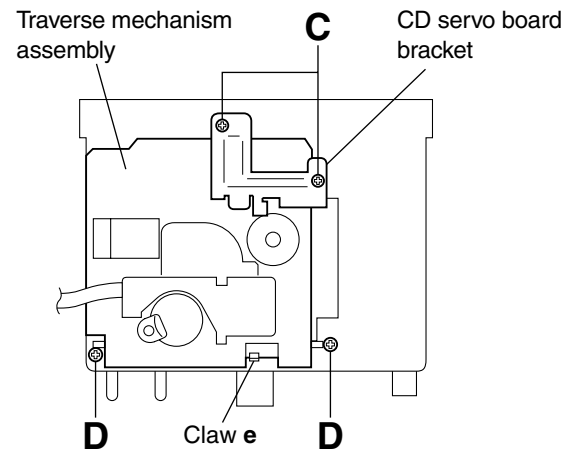

Fig.4
■ Removing the traverse mechanism assembly (See Fig. 4.)